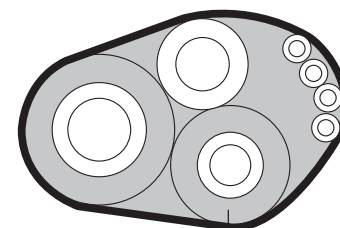

Figure 15
- After completing installation of refrigerant lines, wiring and drain connections, bind the tubing, wiring and drain hose (check if local codes permit binding) into a bundle by using tape at 100 or 200 mm (4" to 8") intervals. Make sure the drain hose is at the bottom of the bundle (Figure 15).